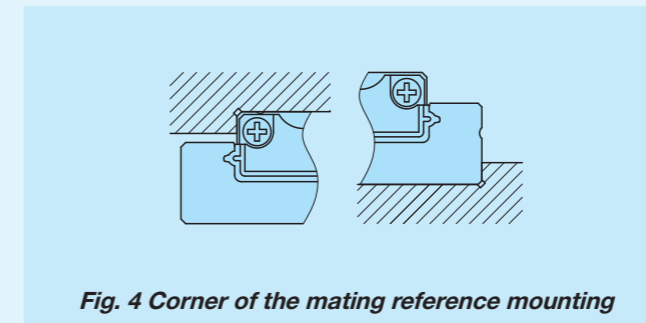

Fig. 4 Corner of the mating reference mounting
For the opposite corner of the mating reference mounting, it is recommended to have relieved fillet as indicated in Fig. 4. Recommended value for the shoulder height on the mating side is indicated in Table 13.
Note (1) In sizes 25 and 30, provide a relieved fillet as shown in Fig. 4.